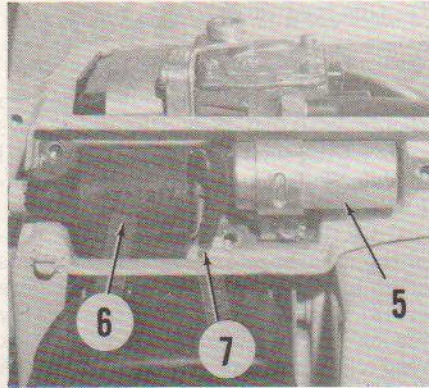

Fig. PR7-8—View of capacitor (5) and high tension coil (6), with cover removed. Insulator (7) should be located between terminals on coil and the capacitor.
To diagnose ignition troubles, first check for loose connections, shorted connections or wires and for shorted stop switch. If the test plug still will not fire, install a new condenser (5—Fig. PR7-8) and recheck. If the test plug still will not fire, install a new high tension coil (6) and recheck. If